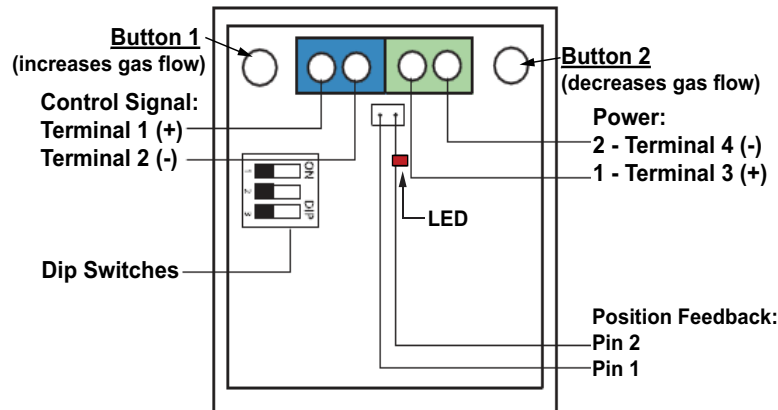

Figure 21. Modulating Valve with Cover Removed
1. Remove two screws that secure cover. See Figure 21 for the location of the LED and the adjustment buttons.